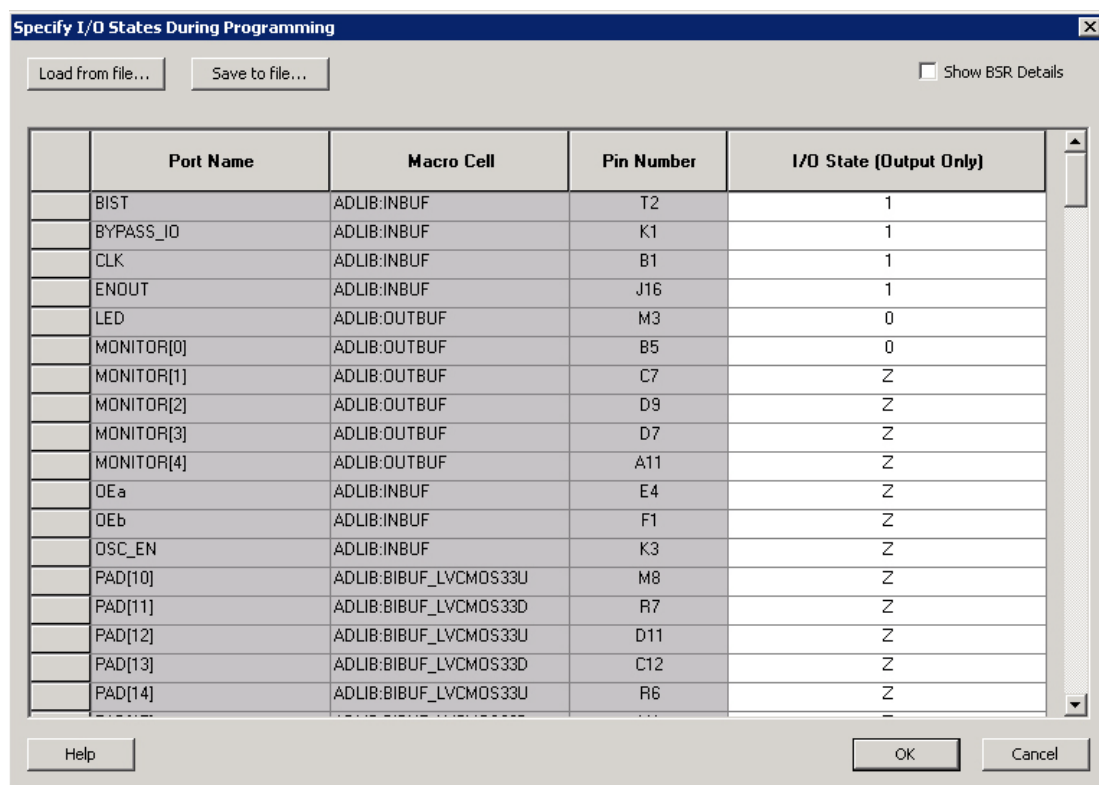

**Figure 1-7 • I/O States During Programming Window**
4. Sort the pins as desired by clicking any of the column headers to sort the entries by that header. Select the I/Os you wish to modify (Figure 1-7 on page 1-9).